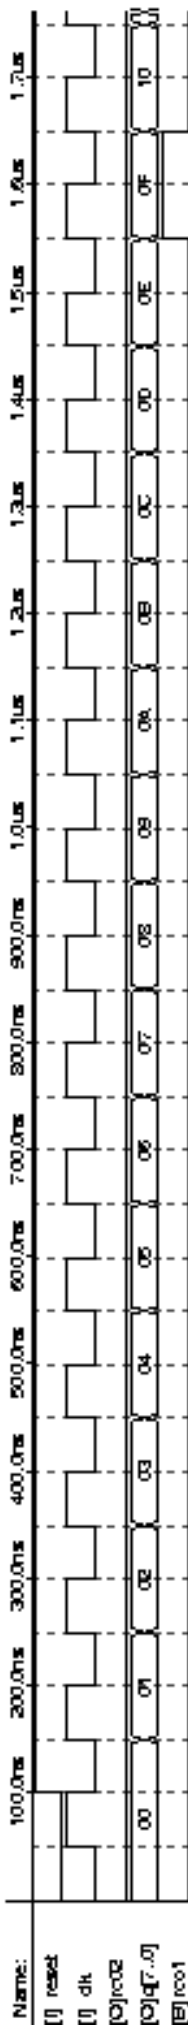

FIGURE 2. FUNCTIONAL SIMULATION
- Select **Save & Simulate** (File > Project menu). The waveform file should be the name of the project with the .scf file extension, which will be added automatically. You should see a functional simulation that shows the operation of the 8-bit counter circuit. Observe when the rco1 and rco2 signals are high. Compare your simulation waveforms to those shown in Figure 2.